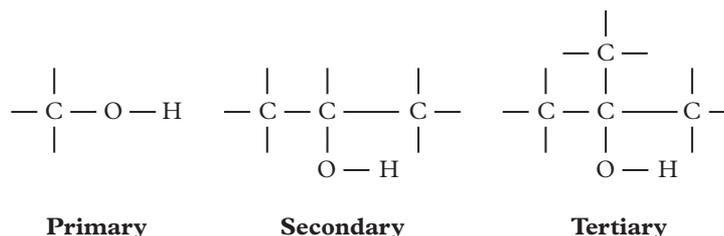

FIGURE 7 The structure of primary, secondary and tertiary alcohols
Alcohols contain hydroxyl (OH) functional groups, which can be oxidised to form aldehydes, ketones or carboxylic acids. The carbon attached to the hydroxyl group loses electrons and its oxidation number increases. Whether a reaction occurs and the product it forms depends on whether the alcohol is primary, secondary or tertiary in structure (Figure 7).